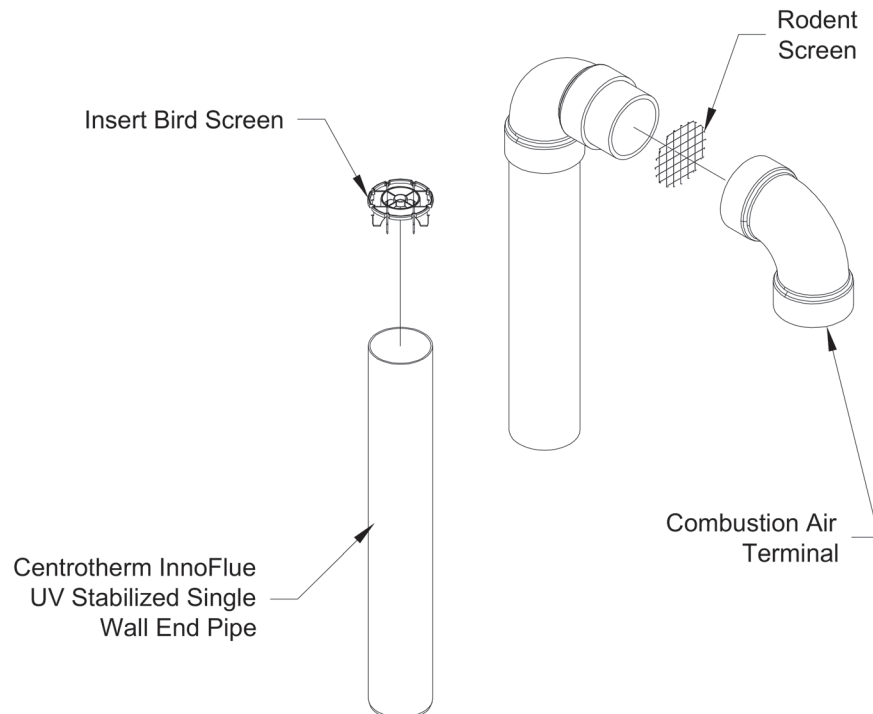

Figure 7.45: Installation of Centrotherm InnoFlue UV Stabilized Single Wall Vertical Terminal
- See Figure 7.45 for the proper orientation of twin pipe vertical terminals.
- A 180° bend (or two 90° elbows) are installed on the top of the air intake pipe. If two 90° elbows are used, the rodent screen provided can be installed between them (Figure 7.45). If a 180° bend is used, install the rodent screen in the open side of the bend, using a ring made of PVC pipe. If desired, the termination fittings can be attached to the end of the intake pipes with field supplied stainless steel screws so that they can be later removed for cleaning and inspection. If this is done, drill a clearance hole in these fittings and a tap hole in the end of the intake pipes to accept these screws.